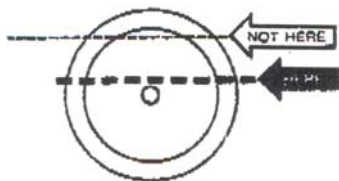
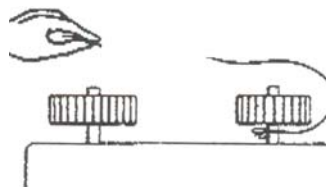
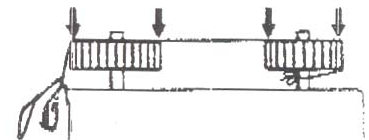

Figure 13
Figure 14
Figure 15
18.1.2. The straightedge should cross the sprockets at the widest possible part. (See Figure 13.) OR USE A STRING. Tie a string around either shaft (Figure 14) and pull it around and across the outer edge of both sprockets. Figure 15 shows how the string should touch four points when the drive is properly aligned. After aligning the sprockets, check the rigidity of the supporting framework. Shafts should be well supported to prevent distortion and a resulting change in the center distance under load. Do not use spring-loaded or weighted idlers. Idler sprockets or pulleys must be locked into position after adjusting belt tension. Please note: At least one sprocket must have a flange.